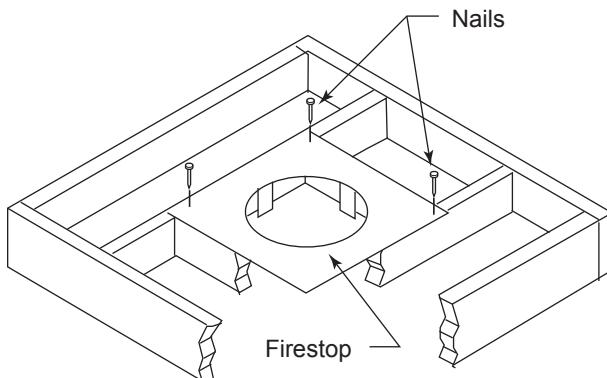
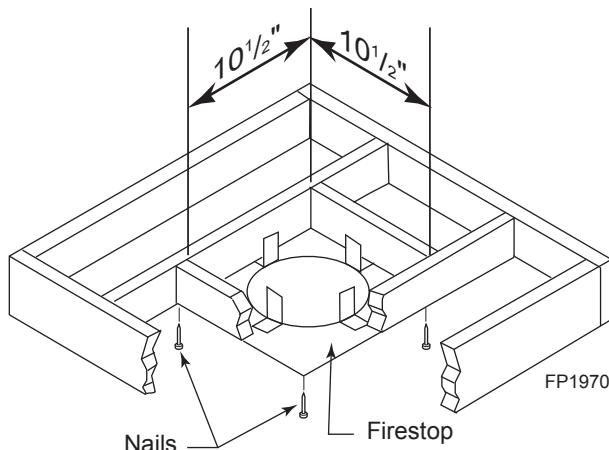

Figure 24 - If Area Above is a Room, Install Firestop above Framed Hole as Shown
Figure 25 - If Area Above is Not a Room, Install Firestop above Framed Hole as Shown
- Cut a $10\frac{1}{2}$ " (241 mm) square hole in the ceiling using the locating hole as a center point. The opening should be framed to $10\frac{1}{2}" \times 10\frac{1}{2}"$ (241 x 241 mm) inside dimensions as shown in Figure 25 using framing lumber the same size as the ceiling joist. If the area above the ceiling is an insulated ceiling or a room, nail firestop from the top side. This prevents loose insulation from falling into the required clearance space. Figure 24. Otherwise, install firestop below the framed hole. Figure 25